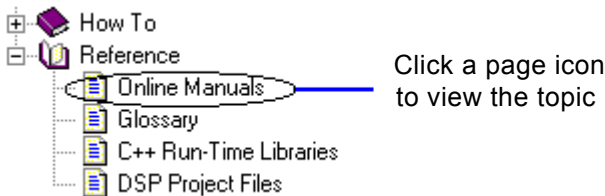

Figure 1-4. Contents Tab – Online Manuals Topic
- A topic name on the Contents tab (Figure 1-4)